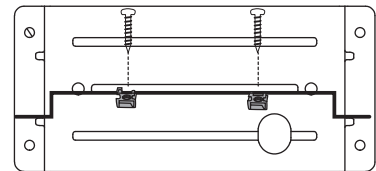

Figure 1
- A** Install the 2 nut covers on the plate. **(Figure 1)**
The racks provided, thermoplastic material with steel insert, are suitable for gates with a maximum weight 500 kg. They are easily mounted on the gate by simply screwing. We provide with self-tapping screws. If the construction of your gate doesn't allow direct mounting racks, you will have to create a new base of support. (Figure 1)